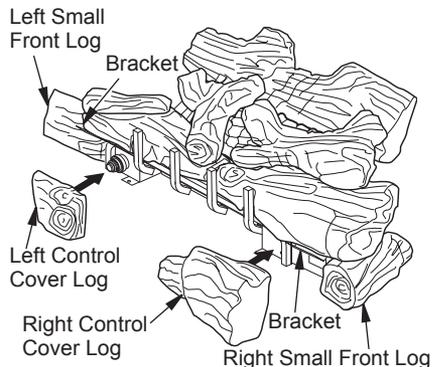

Figure 22 - Installing LBG36-SM Model Control Cover Logs
7. For LTF36-SM, the front right and left logs are longer and are supported with brackets on each end (see Figure 22). Place left and right small front logs under left bracket and beside right bracket.